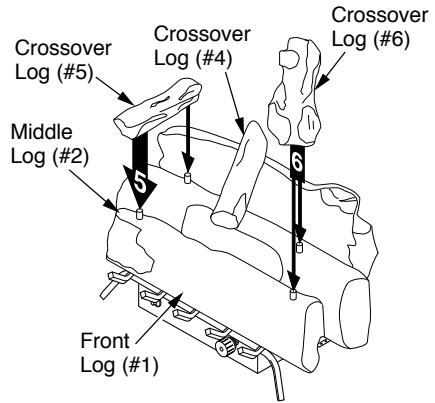

Figure 29 - Installing Crossover Log #5 and Log #6 (CCL3018PA/NA and CCL3018PTA/NTA Only)
6. Locate holes on the bottom of crossover log (#6). Slide these holes onto the right pins located in middle log (#2) and front log (#1). See Figure 29 for CCL3924PTA/NTA or CCL3930PTB/NTB. See Figure 29 for CCL3018PA/NA or CCL3018PTA/NTA.